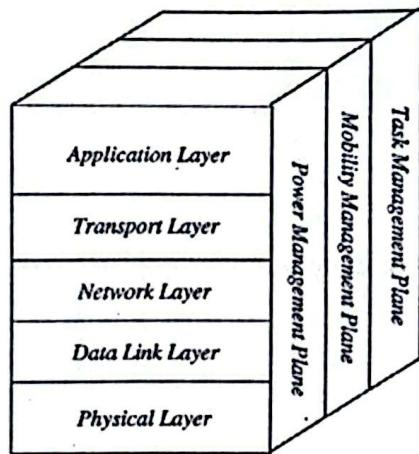

Figure 2
- Scattered sensor nodes have the capabilities to collect data and route data back to the sink and the end-users. Data are routed back to the end-user by a multi-hop infrastructure-less architecture through the sink as shown in Figure 2. The sink may communicate with the task manager node via Internet or Satellite.